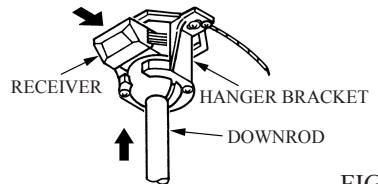

FIG.5
2. Carefully lift the fan and seat the down rod ball assembly on the hanger bracket. Be sure the groove in the ball is lined up with tab on the hanger bracket. Do not pinch wires between the ball and down rod assembly and hanger bracket(see Fig.5)